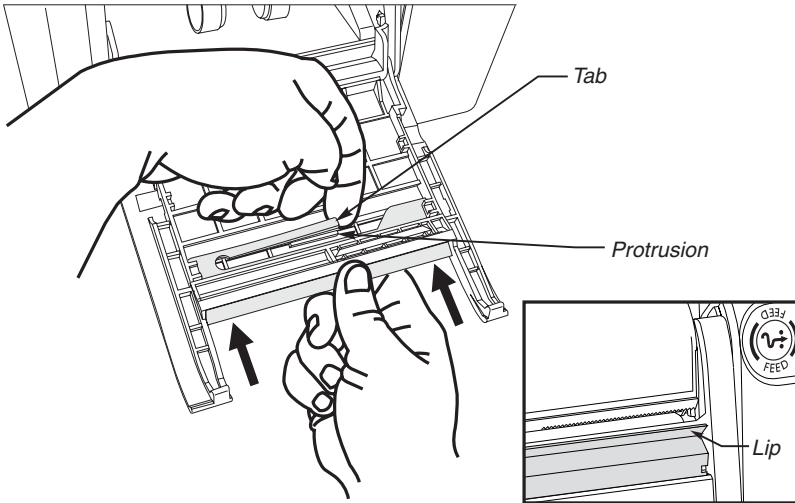

FIGURE 7
9. Refer to Figure 7. If it's not already in place, install the tear bar in the media access door. Gently lift the tab on the bar to move it over the protrusion on the door. Make sure the lip of the bar (inset, Figure 7) faces out of the printer.
9. The tear bar should not be installed in the printer. If it is, gently lift the tab on the bar to get it over the protrusion on the door (reverse the procedure shown in Figure 7). Then, pull the bar out of the printer.